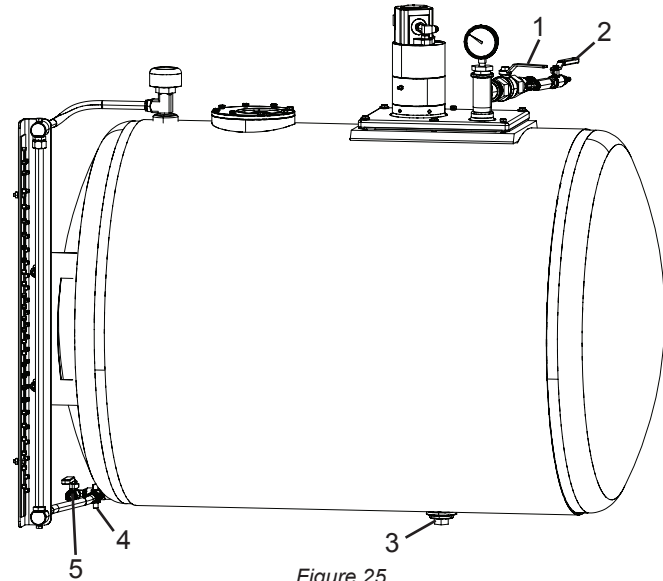

Figure 25
2. Open the main tank ball valve drain (Figure 25, Item 5).
3. Remove the water tank drain plug (Figure 25, Item 3).
4. Open the tank sight glass isolator valve (Figure 25, Item 4).
5. When no more water comes from the tank drain(s), install the water tank drain plug (Figure 25, Item 3). Tighten the plug until snug.
6. Close the sight glass isolator valve (Figure 25, Item 4).
7. Close the main tank ball valve drain (Figure 25, Item 5).
8. Open the water pump discharge valve (Figure 25, Item 1) and allow water to drain through the wash-out hose.
9. Close the water pump discharge valve (Figure 25, Item 1) and open the air purge valve (Figure 25, Item 2) to purge the water lines.